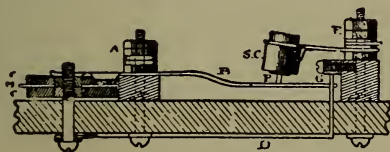

Fig. 34. Lightning Arrester and Stray Current Protector for Telephone, Bell and Signalling Circuits.
*Answer.* The protector is shown in Figs. 34 and 35. The line current enters at binding post A and passing along the spring B goes through the pin P through the wire of the coil SC on to post E, where the instrument wire is attached.